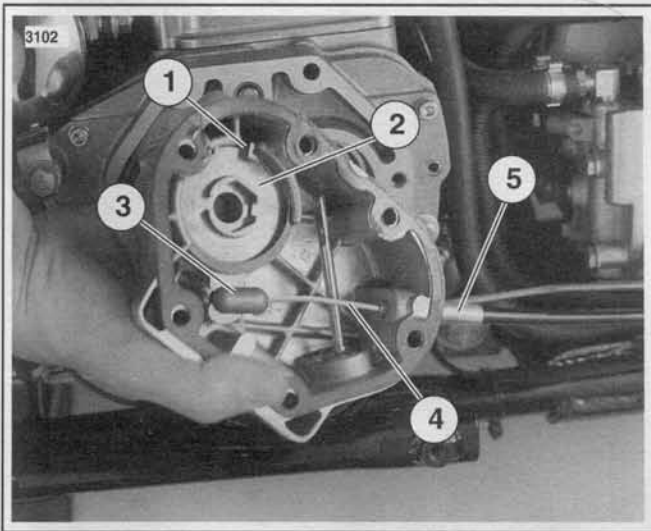

Figure 7-12. Clutch Cable Connection
3. See Figure 7-12. Note position of retaining ring opening. Remove retaining ring (1). Lift inner ramp (2) and coupling (3) out of clutch release cover. Disconnect clutch cable end (4) from the ball and ramp coupling (3).
3. Check fit of the hub on ramp (2) in ramp (7). Replace both parts if there is excessive wear.
5. See Figure 7-12. Check the bore in the clutch release cover casting where the ramps are retained. There should be no wear; lips worn into the bore that would catch the ramps and cock them, causing improper clutch adjustment.
1. See Figure 7-12. Screw clutch cable fitting (5) into clutch release cover. Do not tighten at this time.
3. See Figure 7-12. Connect cable end (4) to coupling (3). Install coupling on inner ramp (2) and place inner ramp and coupling in position in clutch release cover.
6. See Figure 7-12. Tighten clutch cable fitting (5) to 3-5 ft-lbs (4-7 Nm).